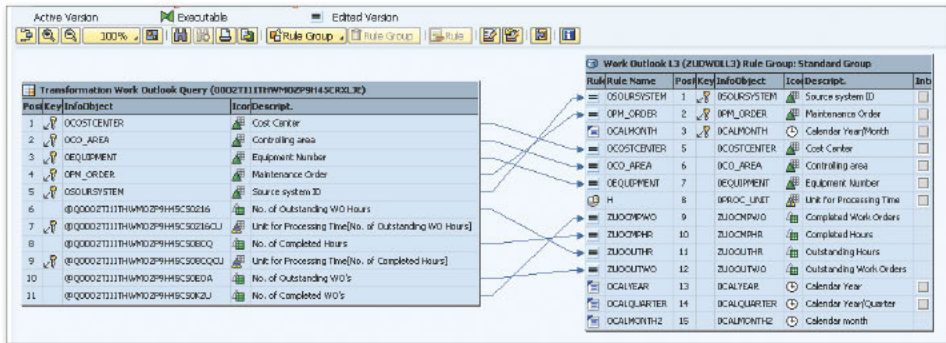

Figure 3 Defining Transformation Rules
- Map the appropriate fields in the transformation, and activate the transformation (see Figure 3). You can map fields in the BEx query to the fields on the TEST DSO. You may also define further transformation rules using start routines, end routines, expert routines, or simple mapping rules.